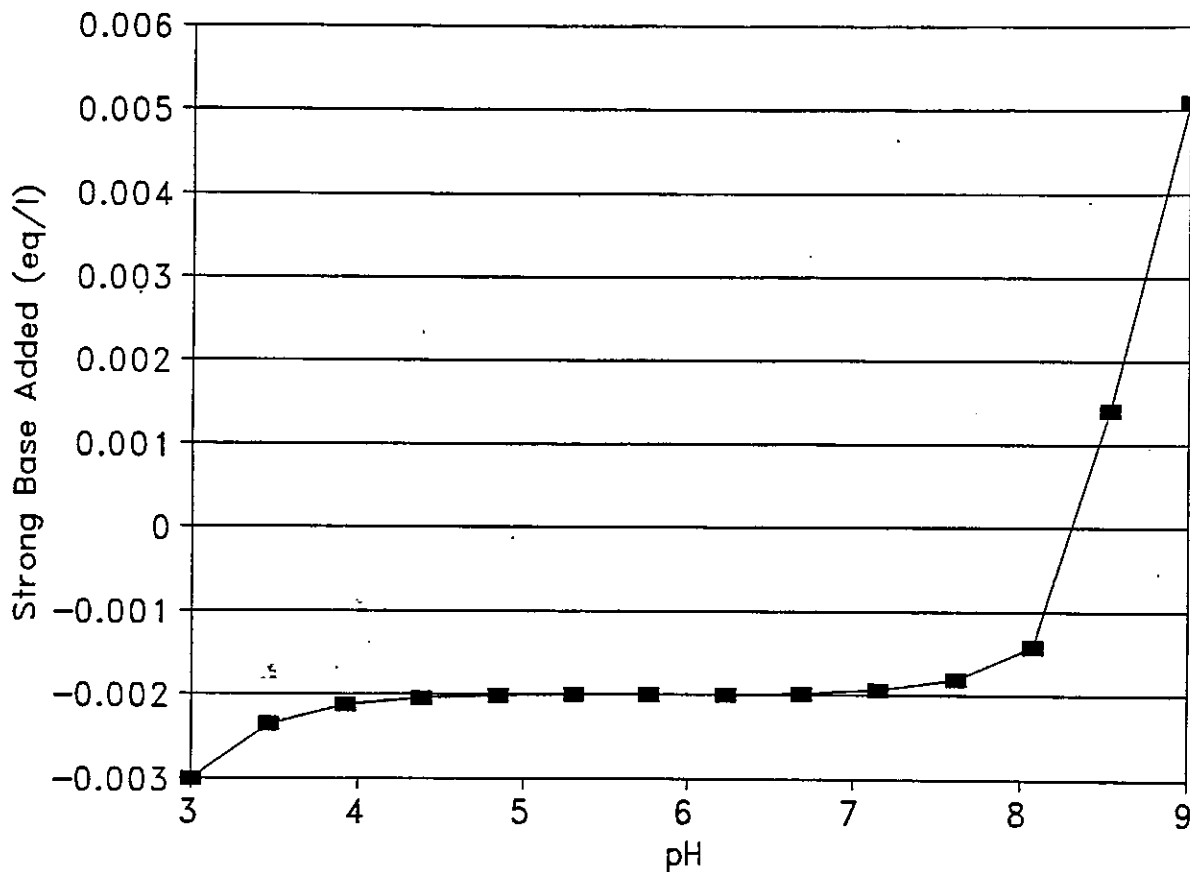

Figure 4.17.
3. The amount of strong acid or base added to the system. While the Graphics Manager is still open, change the active component to H(+) and the Units to Conc (M). For the Y axis, select 3:pH. This corresponds to the S2.H(+)/OBS/Conc view for pH and is equal to the amount of strong base added or subtracted (strong acid added) to the system. Plot the graph. The plot should look like Figure 4.17.